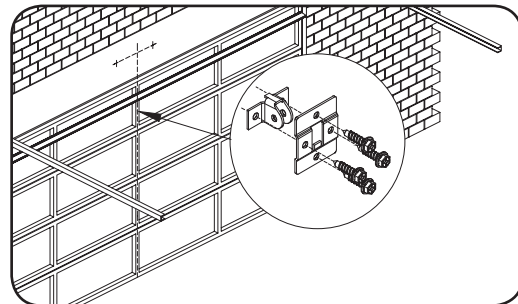

Fig.12
The door bracket comes in two parts. The bottom plate with two mounting holes is used on its own for one piece doors. For sectional doors, the top plate is placed over the bottom plate and is fixed with four (4) screws (Fig.12).
- Mount the door bracket, or bracket assembly, on the door's centre line one-third down the top panel (Fig. 12) using M6 or equivalent screws (not supplied),